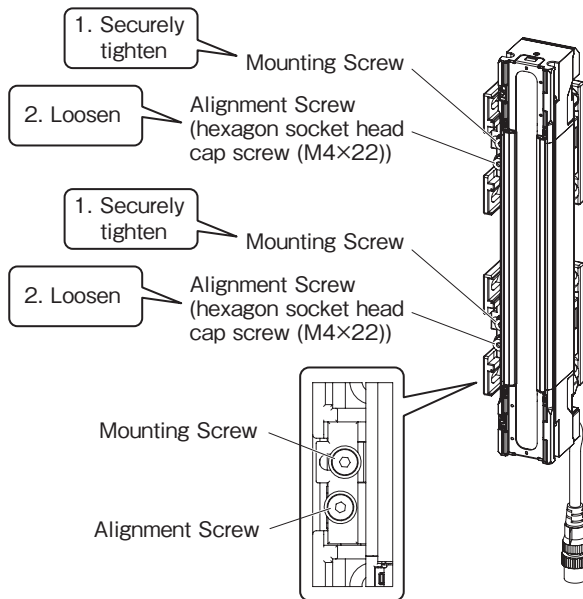

Fig. 3
3. Securely tighten the Mounting Screws to fix the Adjustable Side-Mount Bracket to the sensor housing. The recommended torque to tighten the Mounting Screws is 3.0 N•m. Then loosen the Alignment Screws (hexagon socket head cap screws (M4×22)). (Fig. 3)